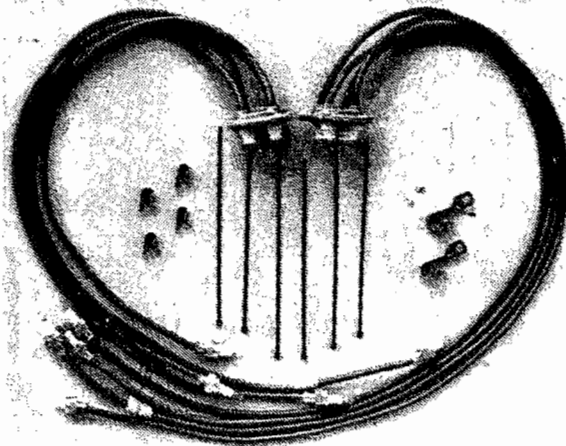

FIGURE 203: CUSTOM READY-TO-FIT HARNESS
- (3) Custom Ready-to-Fit: Magneto and spark plug ends pre-assembled, all clamps and ties supplied as bag parts. See Figure 203.